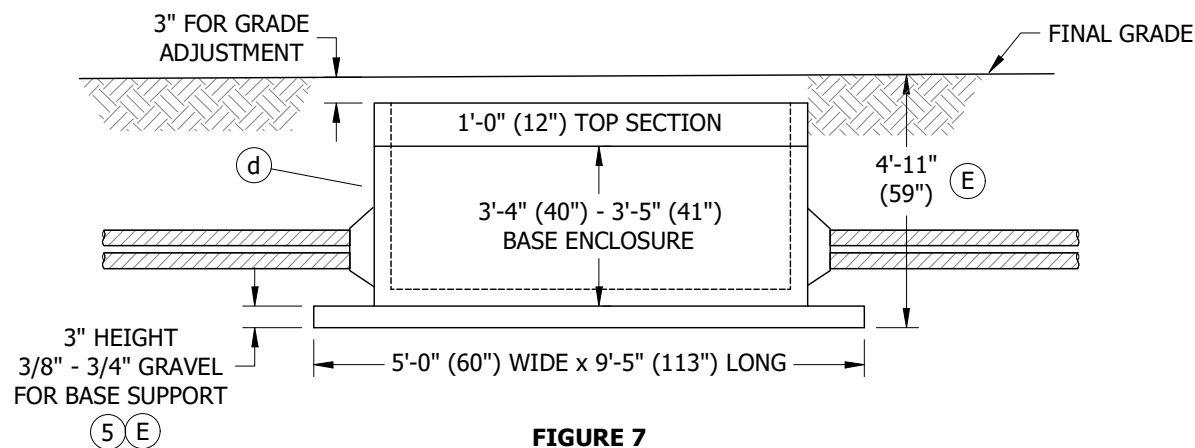

FIGURE 7
- AFTER THE LOCATION IS ESTABLISHED, MARK OUT DIMENSIONS FOR THE EXCAVATION WIDTH, LENGTH AND DEPTH PER FIGURE 7. THE WIDTH AND LENGTH DIMENSIONS GIVEN ALLOW AN EXTRA 8 INCHES FOR SETTING THE SUBSTRUCTURE.